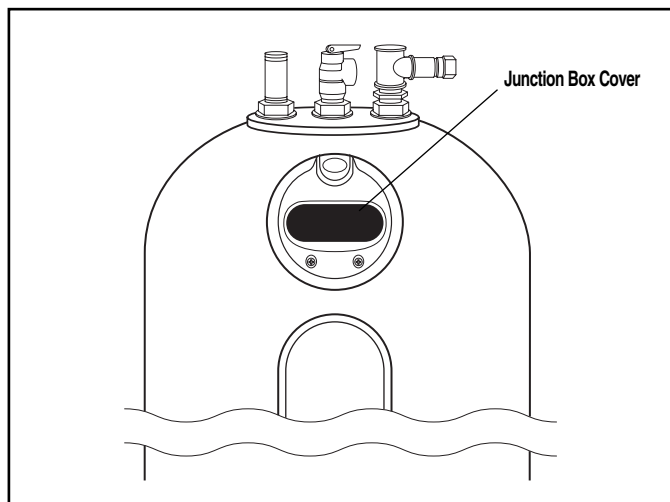

Figure 4 — Water heater junction box location.
7. **ELECTRICAL CONNECTIONS** — The water heater is completely wired to the junction box inside jacket at top front of water heater (see Figure 4). An opening for a 1/2" or 3/4" electrical fitting is provided for field wiring connections. A separate branch circuit with copper conductors, overcurrent protective device and suitable disconnecting means must be provided by a